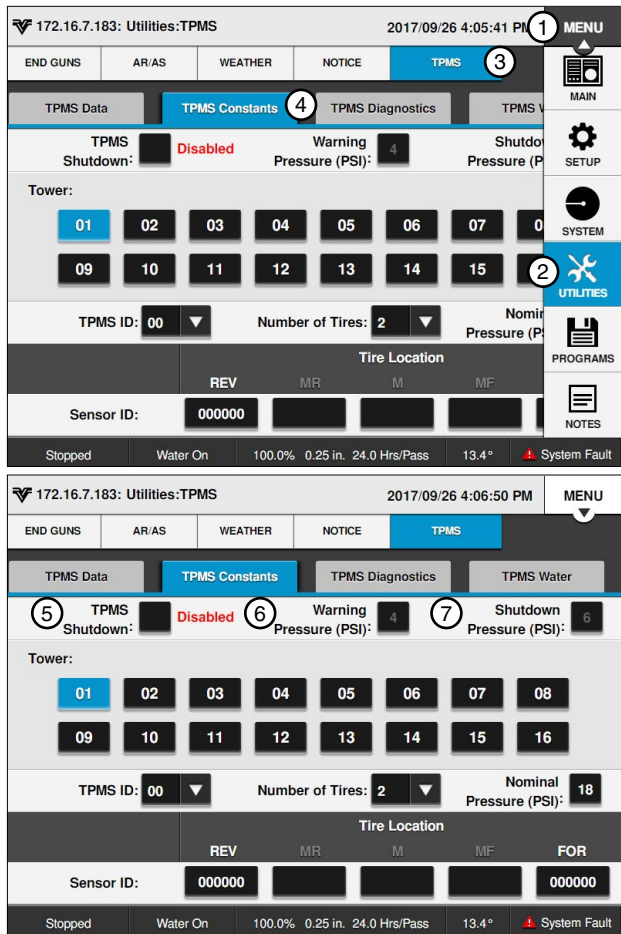

Figure 82-1 1. Menu 5. TPMS Shutdown
The TPMS Constants screen is used to set the following constants. Refer to Figure 82-1:
The system can be set to shut down if tire pressure falls below a set amount. Figure 82-1.
2. Using the numeric keypad, enter the pressure value for the pressure drop warning. Refer to Figure 82-1.